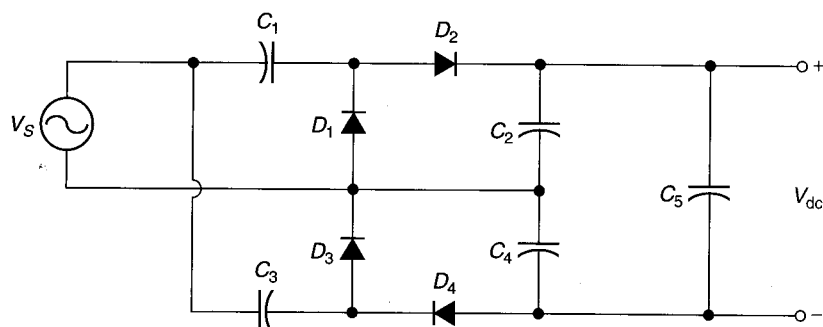

FIGURE 4.43
30. The circuit shown in Figure 4.43 has an  $18\text{ V}_{\text{pk}}$  input signal. Determine the values of  $V_{C1}$ ,  $V_{C2}$ ,  $V_{C3}$ ,  $V_{C4}$ , and  $V_{C5}$  for the circuit. Assume that the diodes are ideal components.
31. The circuit shown in Figure 4.43 has a  $36\text{ V}_{\text{ac}}$  input signal. Determine the values of  $V_{C1}$ ,  $V_{C2}$ ,  $V_{C3}$ ,  $V_{C4}$ , and  $V_{C5}$  for the circuit. Assume that the diodes are ideal components.